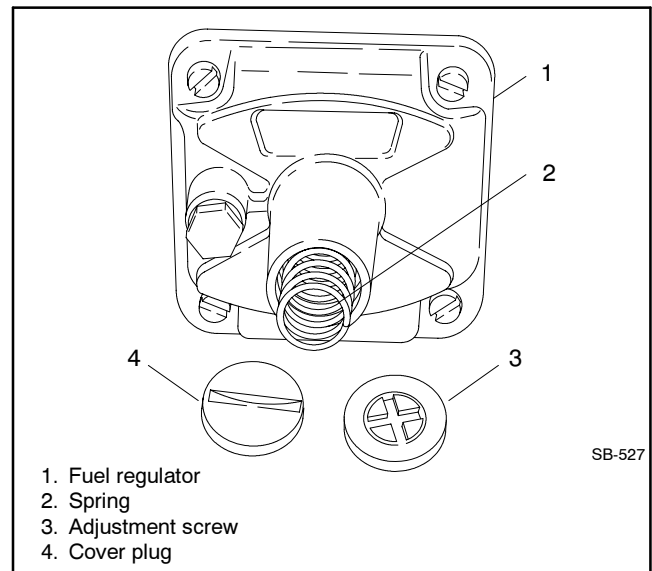

Figure 3-9 Fuel Regulator, Typical
1. Remove the fuel regulator cover plug. See Figure 3-9.